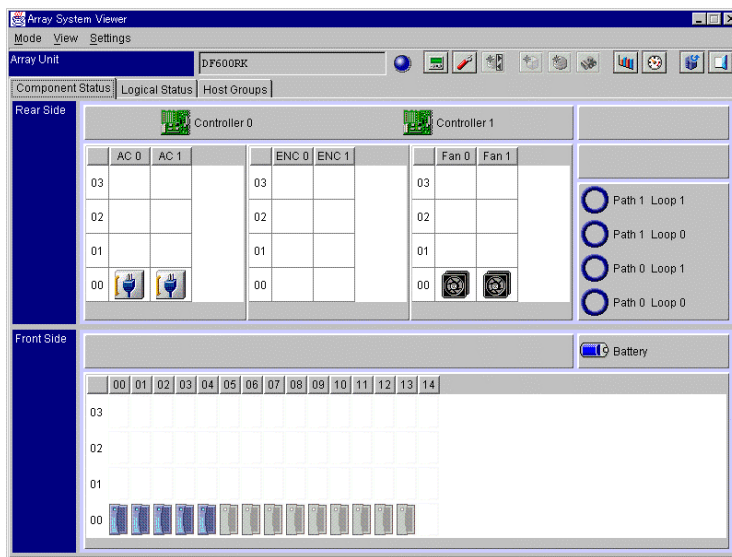

Figure 4.1 Array System Viewer Panel
2. Register the array unit in which you will want to set SANTinel 9500V and connect to this array unit. The Array System Viewer panel appears (see Figure 4.1).
2. Register the array unit in which you want to delete SANTinel 9500V and connect to this array unit. The Array System Viewer panel appears (refer to Figure 4.1).
2. Register the array unit in which you want to change SANtinel 9500V and connect to this array unit. The Array System Viewer panel appears (refer to Figure 4.1).